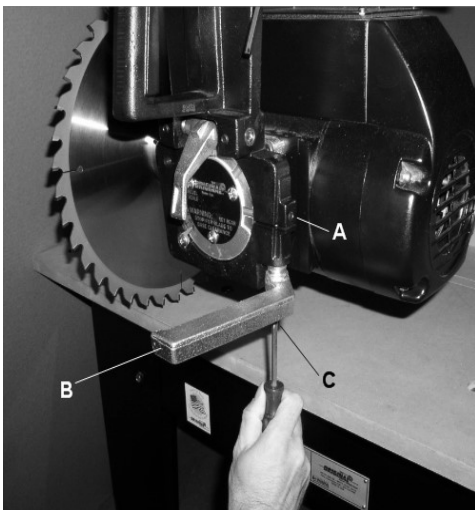

Figure 5
1. Loosen locking set screws (A in Figures 5 and 6) and bevel clamp (B in figure 5).
3. Tighten the bevel clamp stud (C in figure 5).